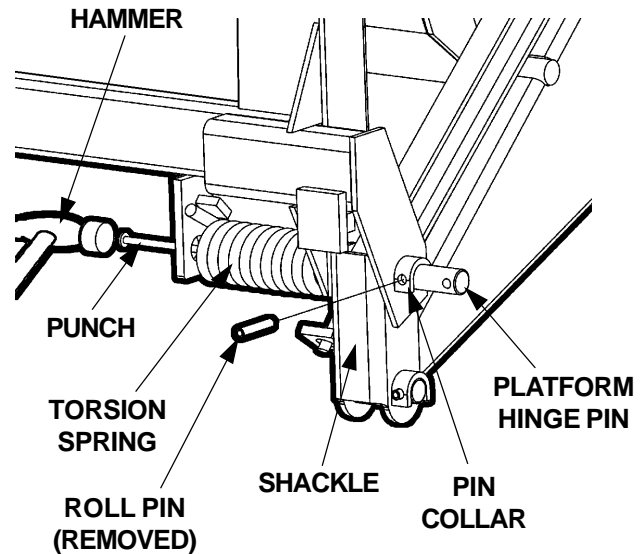

FIG. 5
3. Drive out the roll pin from pin collar on the Platform Hinge Bracket. Drive the platform Hinge Pin out of the Shackle with a hammer and pin punch, just enough to free the torsion spring (**FIG. 5**). Remove spring from Shackle.